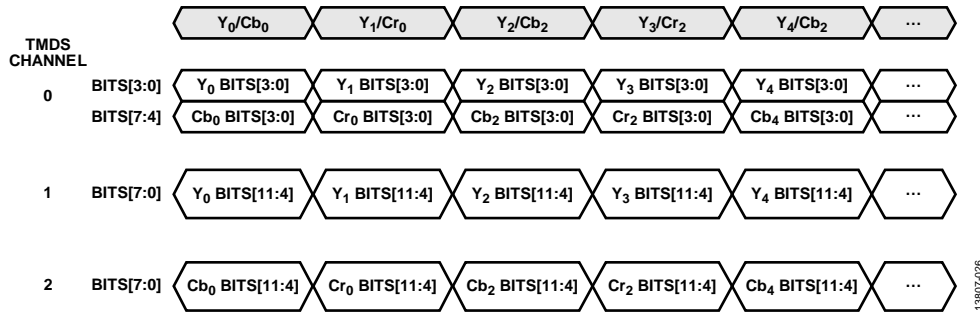
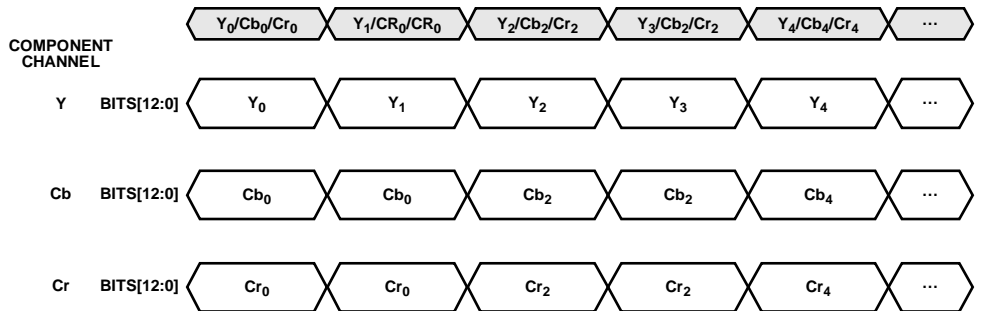

Figure 26. YCbCr 4:2:2 Video Data Encapsulated in HDMI Stream
Figure 27. Video Stream Output by HDMI Core for YCbCr 4:2:2 Input and UP_CONVERSION = 0
- If the HDMI section receives a stream with video encoded in a 4:2:2 format (see Figure 26), the HDMI section upconverts the video data into a 4:4:4 format, according to the UP_CONVERSION_MODE bit, and passes the upconverted video data to the DPP section (see Figure 27).